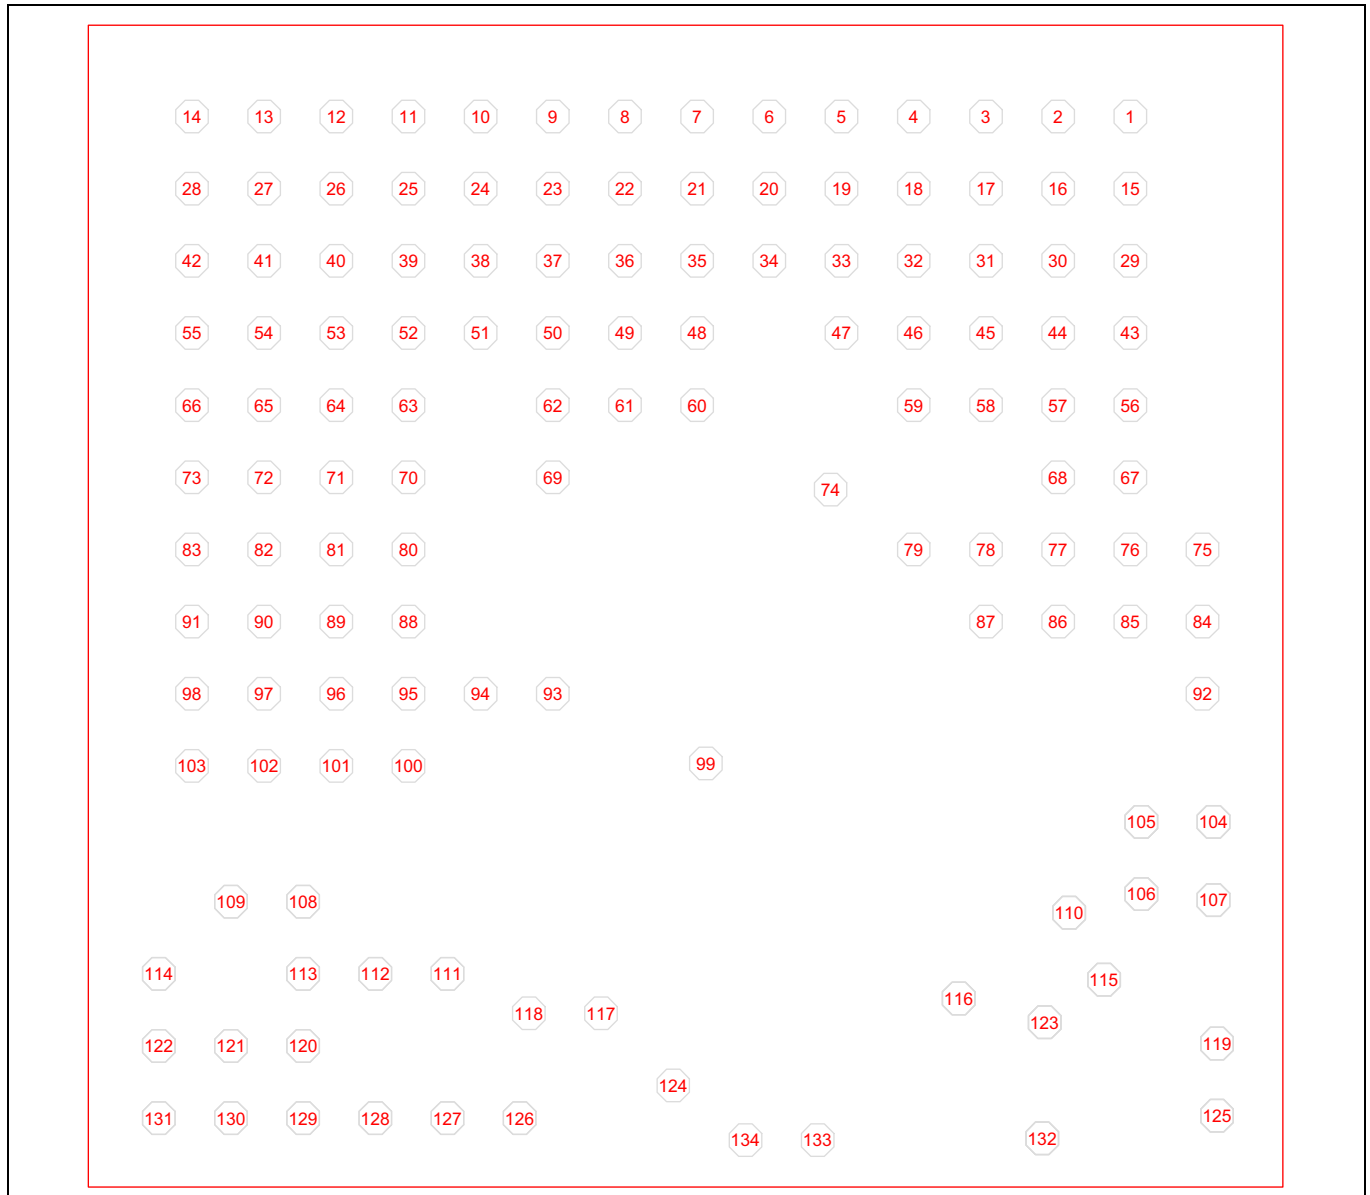

Figure 7 WLCSP ball map
CYW20719 WLCSP package is shown in **Figure 7**.
9. **Figure 7** shows the bottom view of the WLCSP package (Bumps facing up).